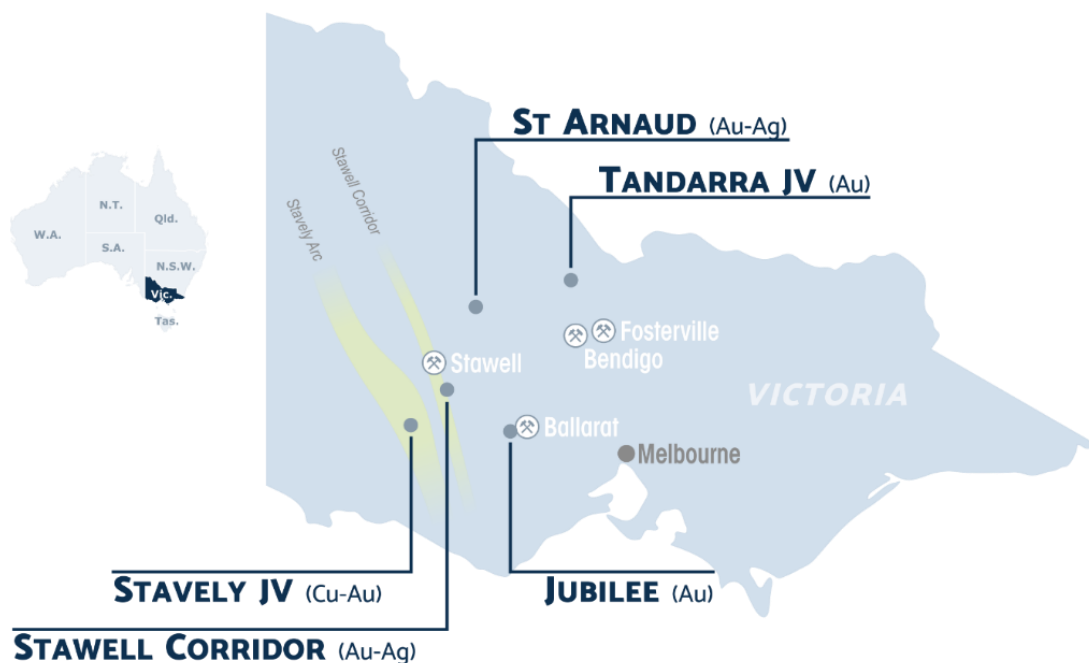

Figure 1: Location of Navarre's Victorian gold projects.
**Navarre Minerals Limited (ASX: NML) (Navarre or the Company)** is pleased to report further high-grade gold intercepts from eight diamond core drill holes covering two of the Company's key Victorian gold projects (Figure 1).
The latest results cover three previously unreported holes on the flagship Stawell Corridor Gold Project; and the final five holes of a 13-hole campaign on the New Bendigo Line within the wholly owned St Arnaud Gold Project, 240 kilometres northwest of Melbourne (Figure 1).